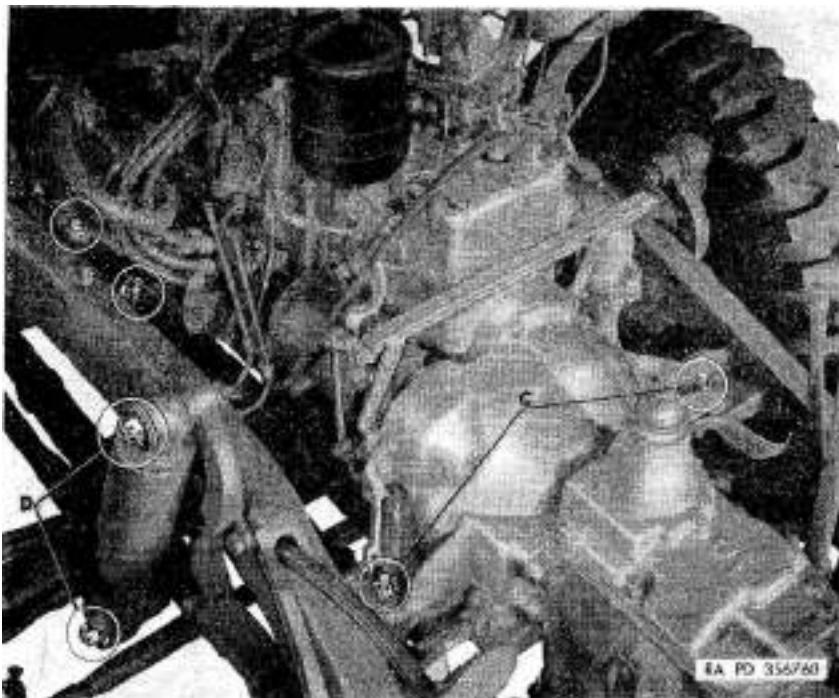

Figure 27. Power plant disconnect points.
- (7) Disconnect fuel tank and brake master cylinder vent lines at flexible lines under generator (B, *fig. 27*).
- (9) Remove nuts, lock washers, plain washers, and cap screws from the engine front support plate and engine front support plate brackets on frame side rails (A, *fig. 27*).
- (10) Remove cotter pins from engine rear support bolts. Remove nuts, plain washers, bolts, plain washers, and rear support lower insulators (C, *fig. 27*).
- (11) Lift power plant from frame. Remove rear support upper insulator spacers and rear support upper insulators from engine rear support brackets.
- (3) Remove cotter pins, shock absorber bearing retainers, and shock absorber bushing-type bearings (rubber) from each shock absorber frame bracket and spring clip plate stud (D, fig. 27). Remove shock absorbers from frame and spring clip plate studs.
- (4) Remove nuts and lock washers from spring clips (four each side). Remove spring clips, front axle bumper assemblies, and spring clip plate at left side. Remove front axle from vehicle.